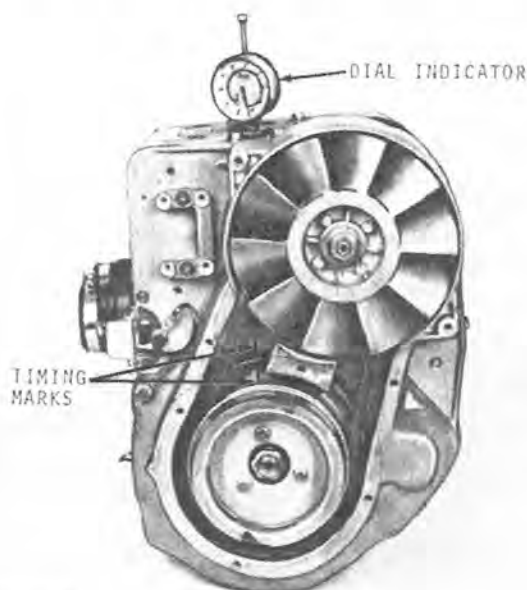

Fig. 12-Timing Marks
4. Hold flywheel in this position and mark a line (use black felt pen) on fan cover and flywheel as shown in Fig. 12.